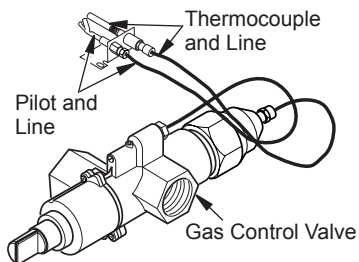

Figure 9 - Gas Control Valve with Thermocouple and Pilot
2. Attach pilot gas line to pilot outlet of gas control valve and tighten. Connect thermocouple to rear of gas control valve. See Figure 9. Do not overtighten. If using propane/LP gas, see *Changing Pilot Orifice*, page 10.